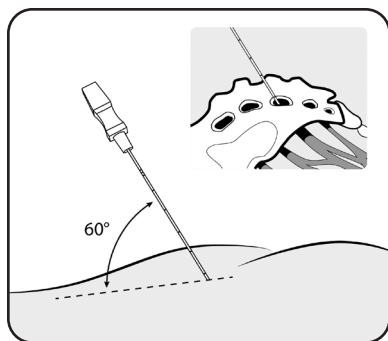

Figure 3. Insert the foramen needle at a 60-degree angle.
1. Using bony landmarks and/or fluoroscopy to guide placement, insert a foramen needle into the sacral foramen. Keep an approximate 60-degree insertion angle relative to the skin. The nerve lies along the superior-medial aspect of the foramen. (**Figure 3**)